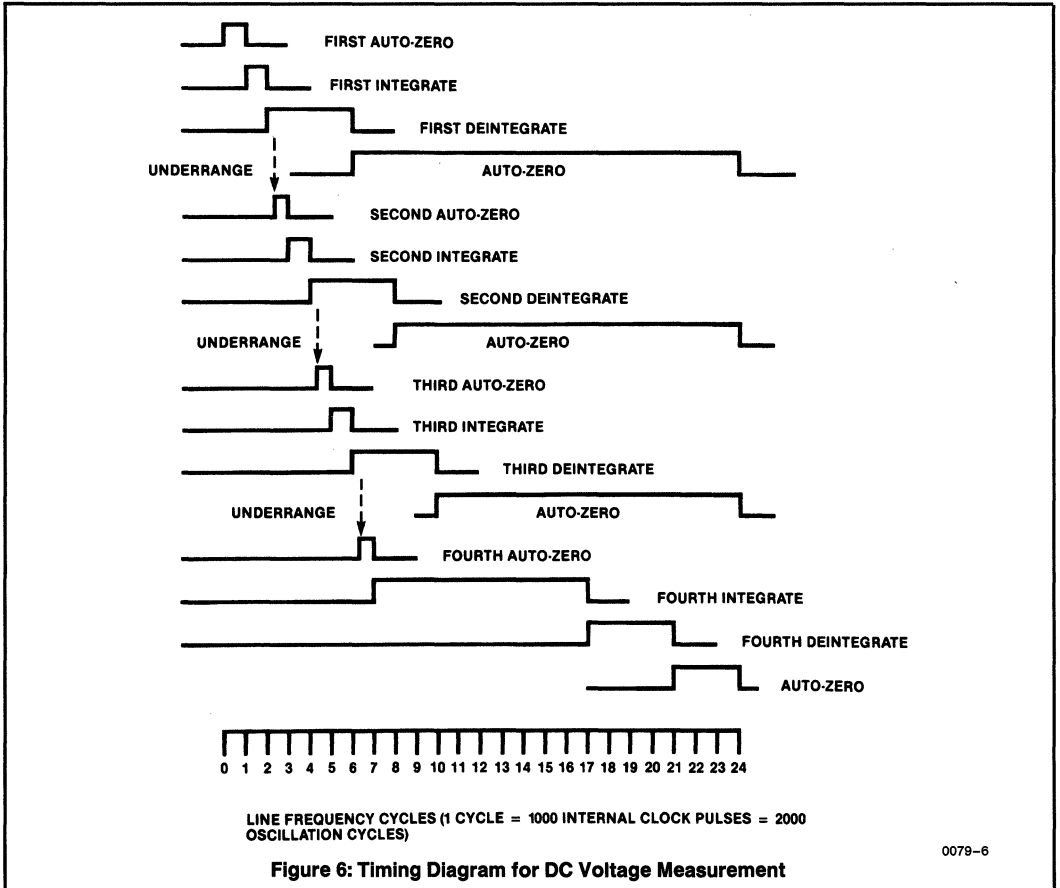

Figure 6: Timing Diagram for DC Voltage Measurement
Only those portions of the analog section which are used during DC voltage measurements are shown in Figure 5. As shown in the timing diagram (Figure 6), each measurement starts with an autozero (AZ) phase. During this phase, the integrator and comparator are configured as unity gain buffers and their non-inverting inputs are connected to Common. The output of the integrator, which is equal to its offset, is stored on C_{AZ}—the autozero capacitor. Similarly, the offset of the comparator is stored in C_{INT}. The autozero cycle equals 1000 clock cycles which is one 60 Hz line cycle with a 120 kHz oscillator or one 50 Hz line cycle with a 100 kHz crystal.